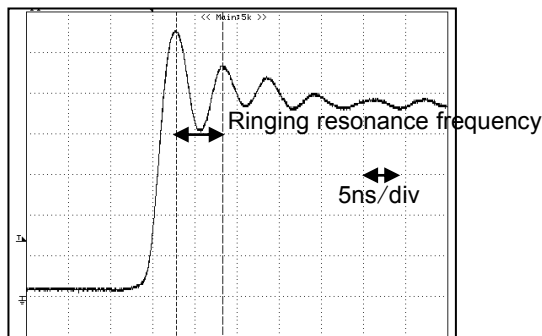

Figure 76. PWM Output waveform
- ① Measure the ringing resonance frequency " f_1 " of PWM output waveform (when rising) by using low capacitance Probe (e.g. FET probe) at the OUT terminal. (Figure 76)